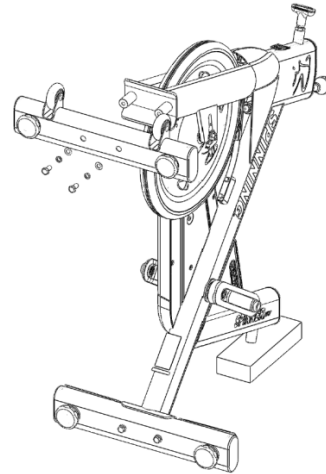

Fig. 13
13. Install the front foot assembly (Fig. 13) and tighten the hardware using the supplied multi sized open wrench.